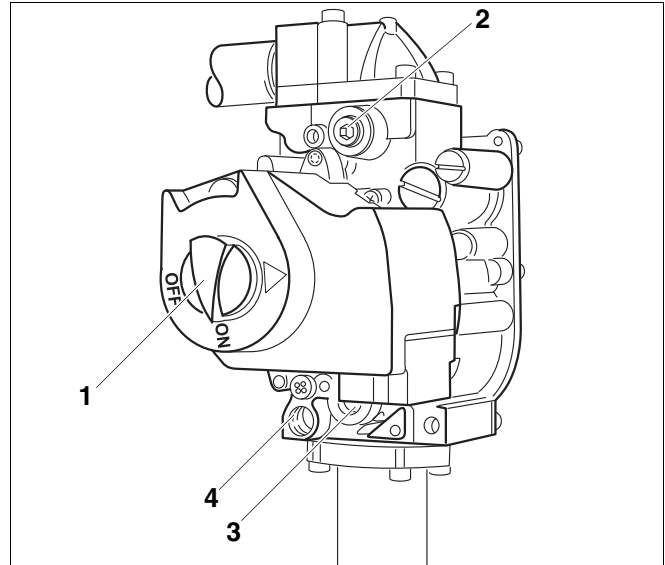

Fig. 27 Gas valve
6. Check the gas connection line to the gas fitting (→ Fig. 27) for leaks with soap solution. If no leaks are found, continue with step 8. If any leaks are found, close gas valve.